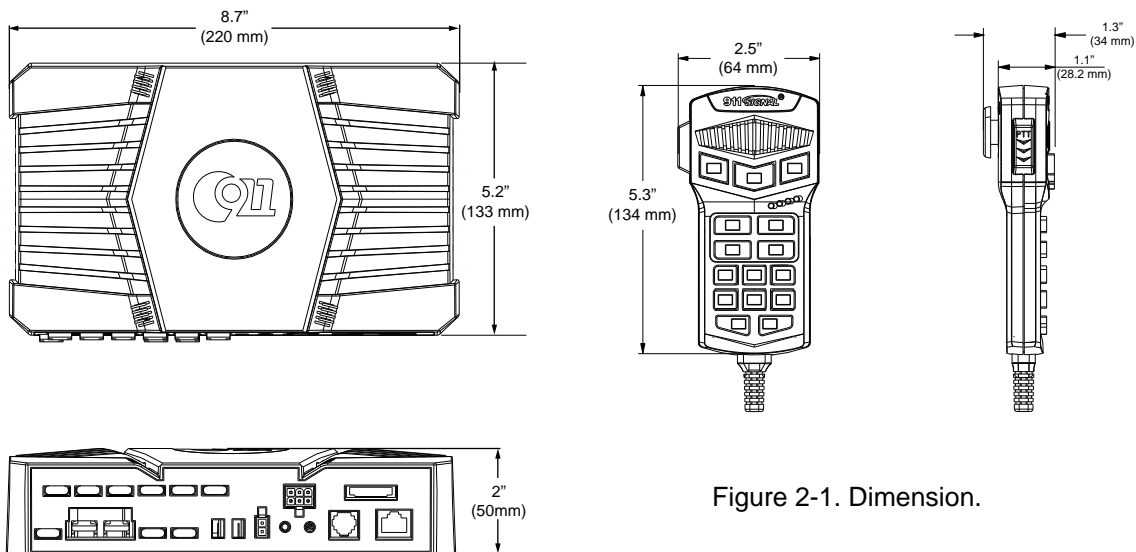

Figure 2-1. Dimension.
2.1 Mounting Location Selection, See Figure 2-1 (Dimension)